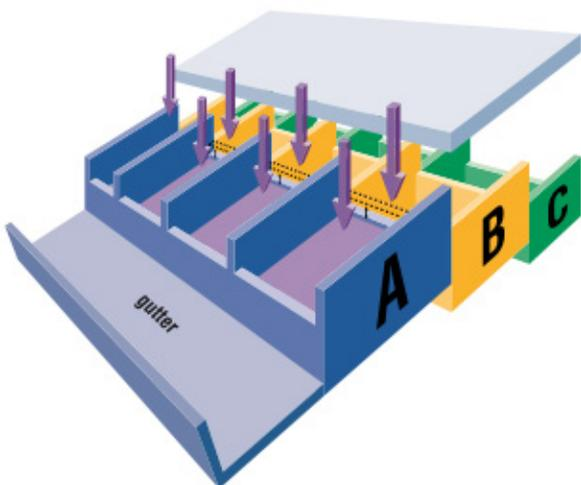

Figure 8. Schematic of a single DLA on the Vista Chip III CCD illustrating the potential barriers between pixels and the antiblooming gutter.
Emissions are collected on light sensitive pixels (A) across the CCD detector surface, where they are converted to an electronic signal, transferred and held at register B before being read-out at register C (Figure 8). 'Blooming' is an undesirable property of a solid-state detector. It occurs when intense illumination of one part of the detector can interfere with the measurement of nearby pixels. Unlike segmented CCD detectors, the Vista Chip III CCD features antiblooming protection on every pixel. If pixels are saturated by a very intense signal, the excess signal overflows into the antiblooming gutter, rather than neighboring pixels. Antiblooming protection ensures that trace elements can be accurately measured in the presence of high concentrations of other elements.
Traffic light color-coding of the counters show which maintenance activities should be done immediately and which can wait (Figure 8). The counters are useful for most general applications, but users can set the counter limits to suit their specific requirements.
Figure 8. Early Maintenance Feedback functionality with integrated maintenance log helps to keep your instrument properly maintained, reducing unplanned downtime and ensuring that you continue to produce consistent, high-quality results.